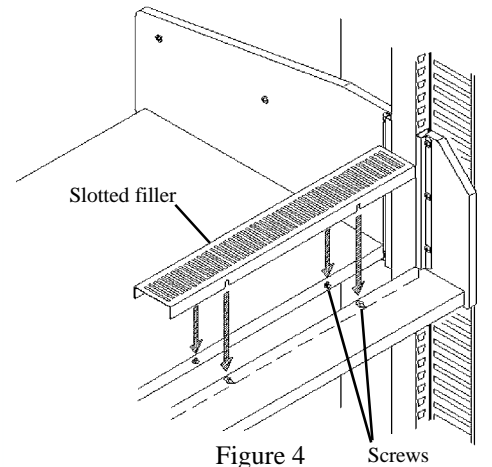

Figure 4
5. The Slotted Filler(s) are placed between the two shelves. They are supported by the special screws protruding from the rear of the shelves. See **Figure 4**.